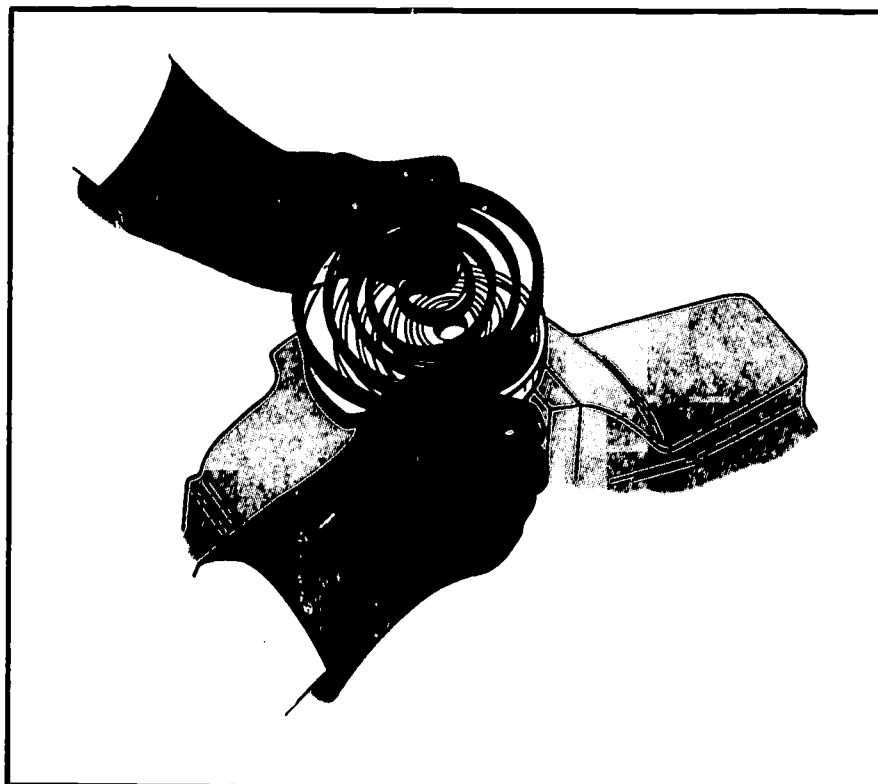

FIGURE 38. Some recoil springs are partially coiled but not packaged. 820 TEC
2. *Remove recoil spring (Figure 38).*
If it is necessary to **recoil the spring before installing it**, be sure to wear gloves to protect your hands (Figure 38).